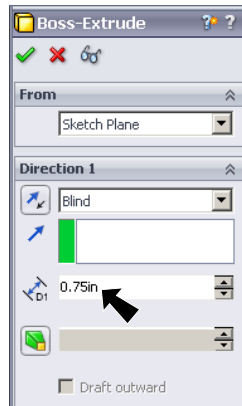

Fig. 3
- Step 9. In the Property Manager set: under Direction 1, **Fig. 3**